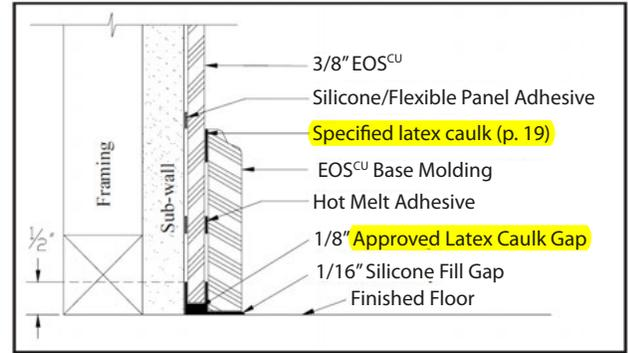

Figure 31A
- Apply a continuous bead of required **latex caulk** to top and bottom of moldings. **(Figure 31A-31C)**
- Apply small dabs of hot melt to hold moldings in place until securely adhered. **(Figure 31A-31C)**